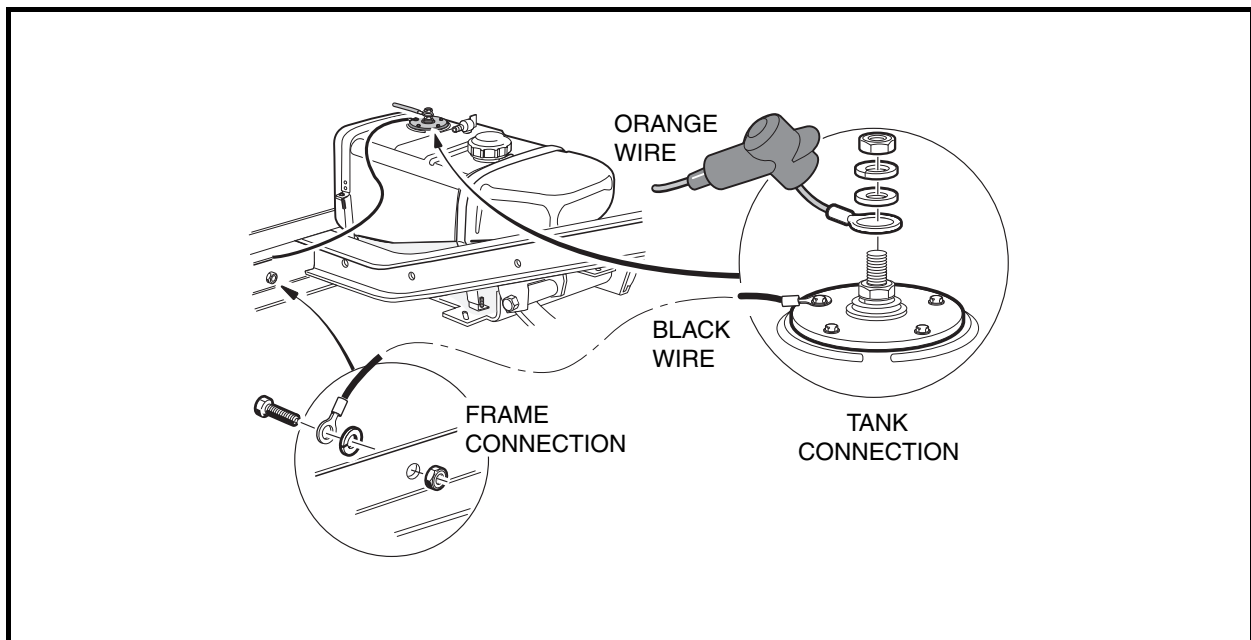
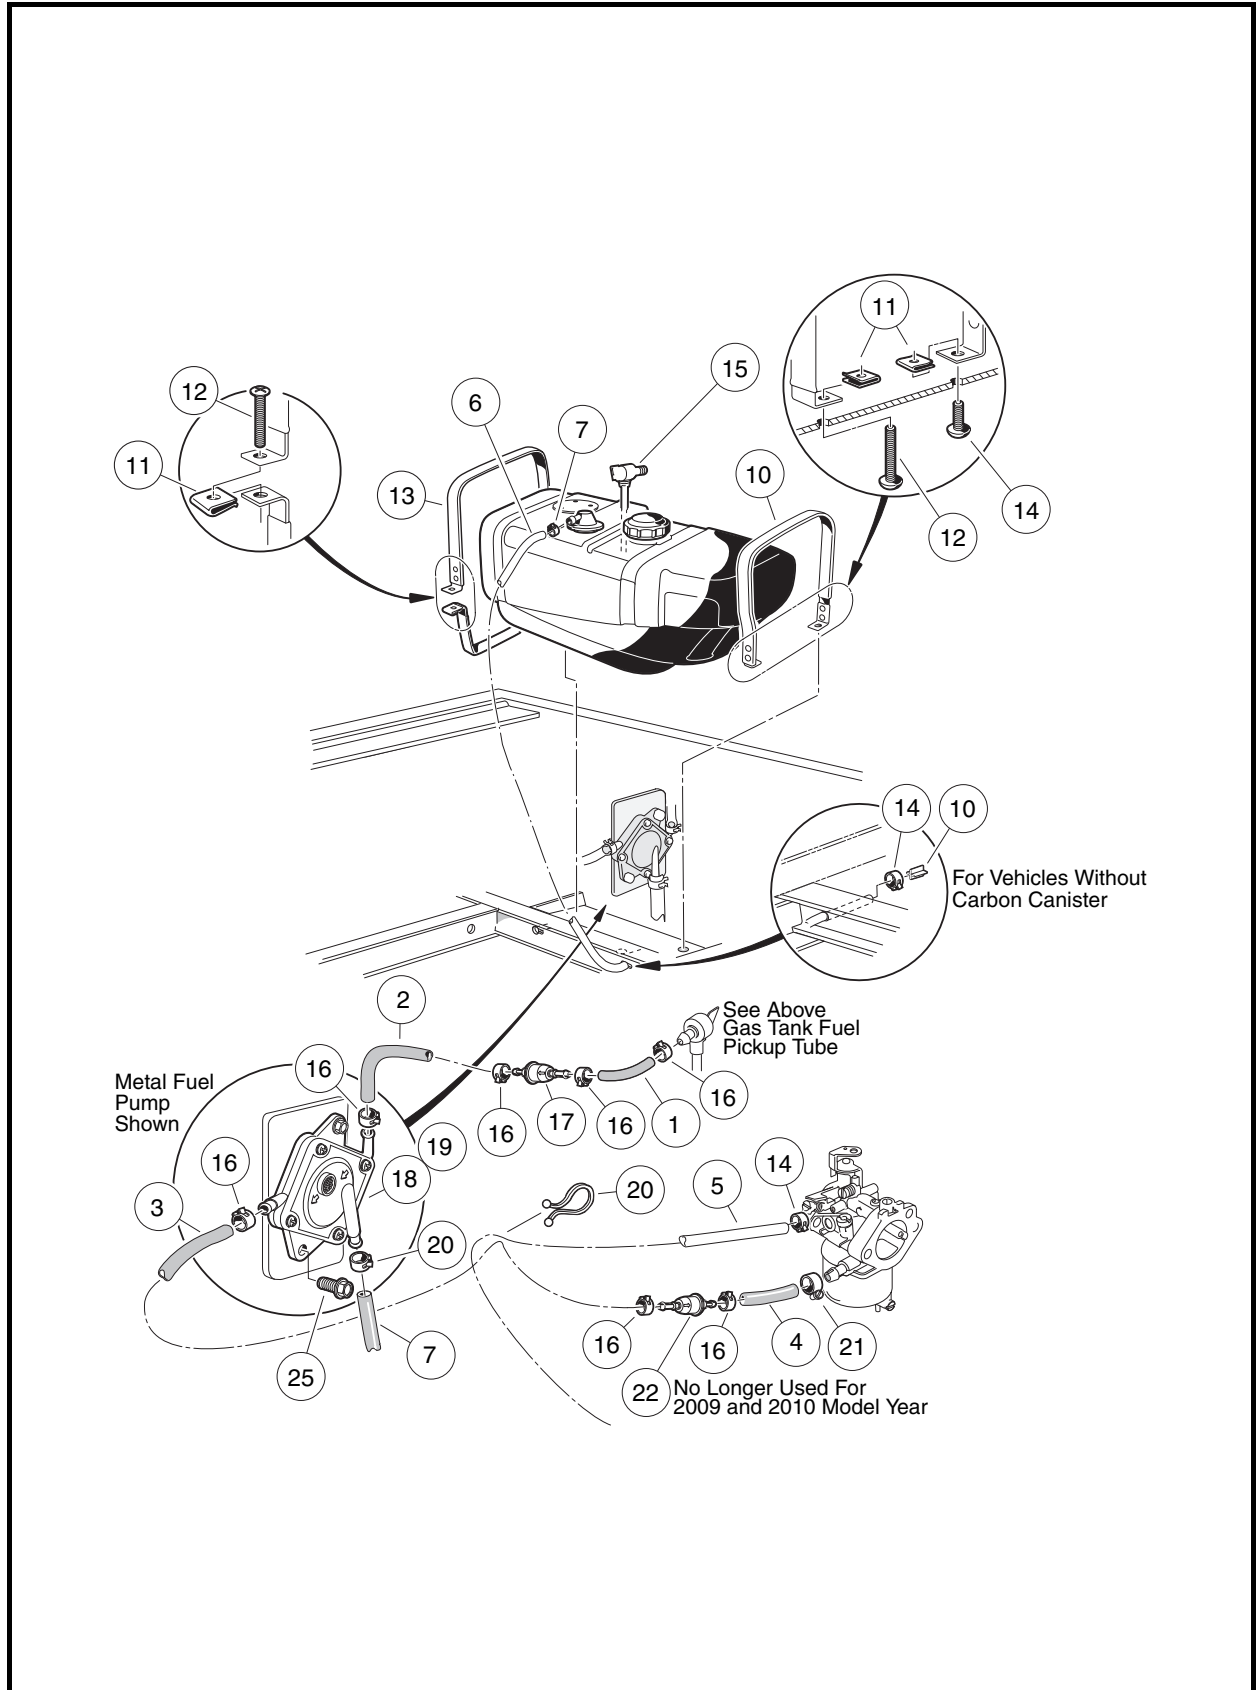
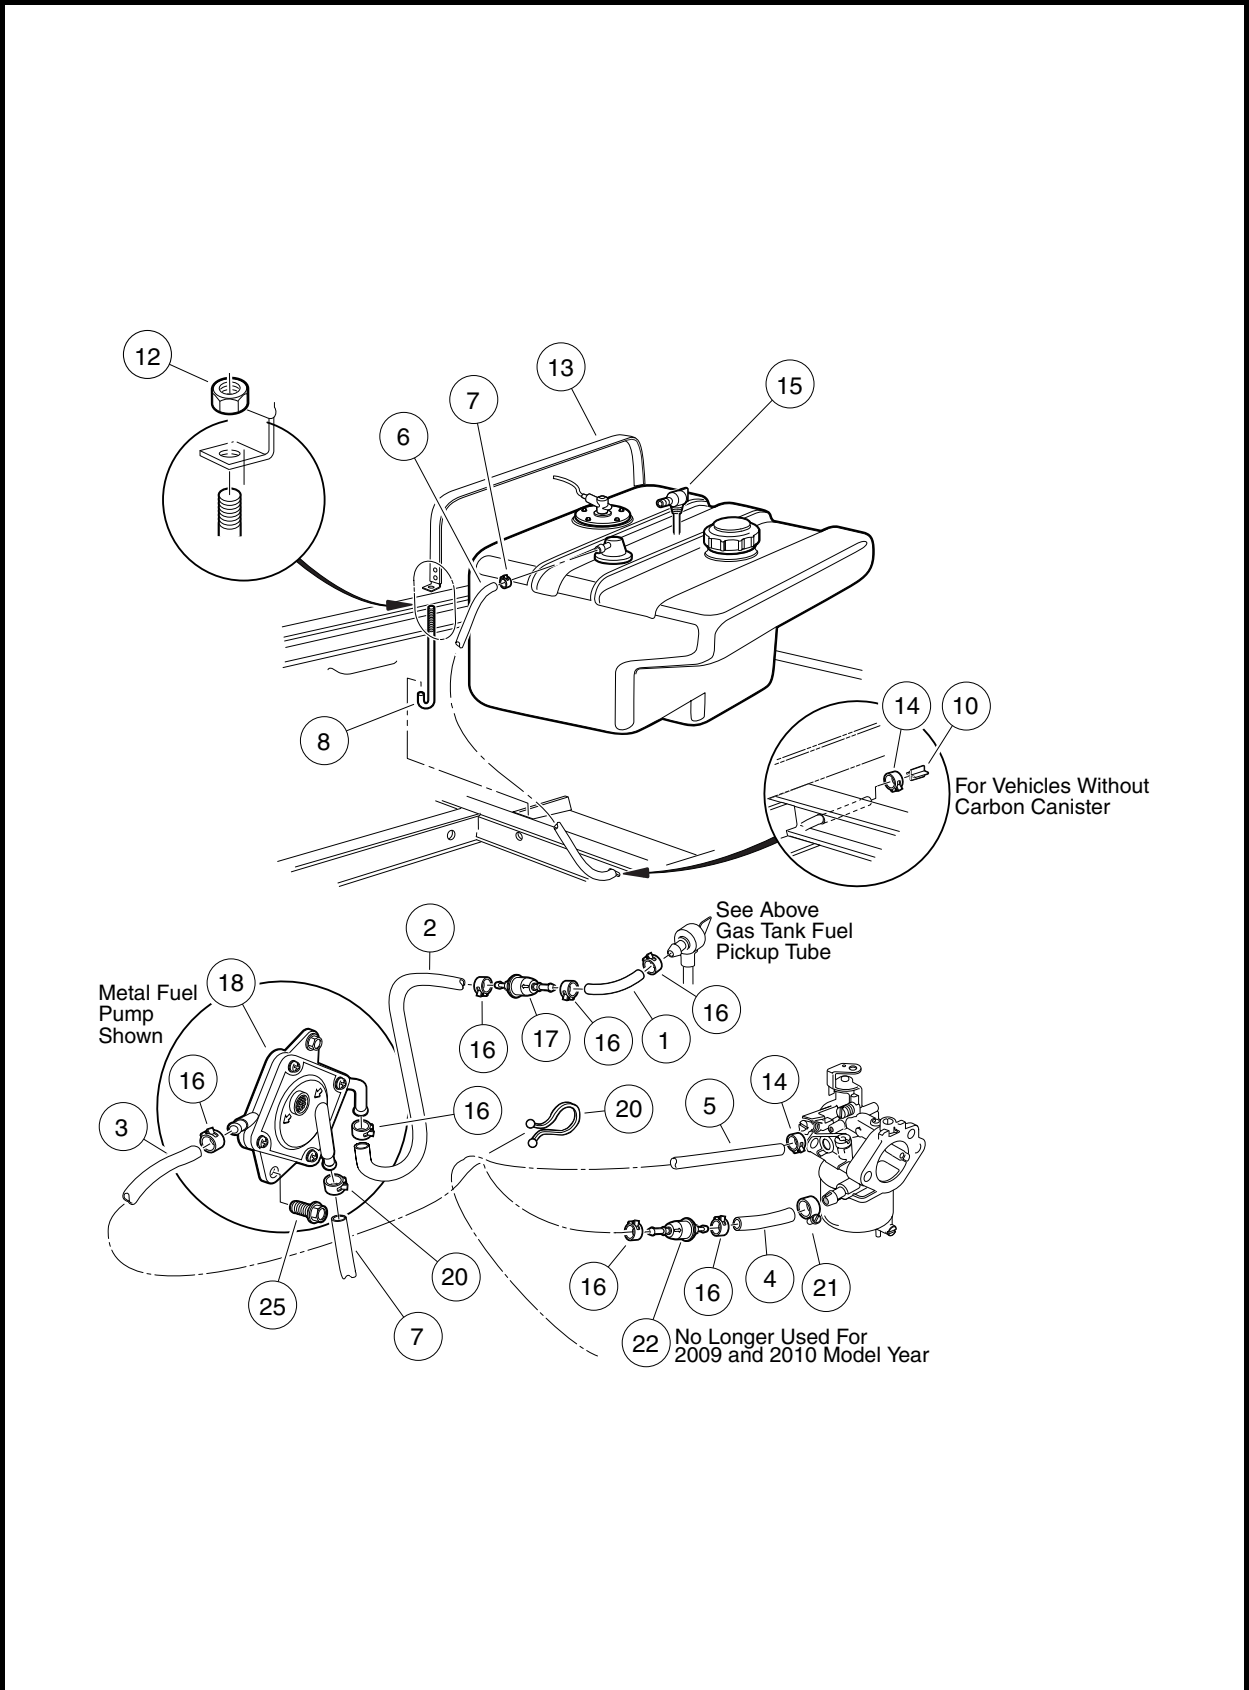

Figure 14-15 Fuel Level Sending Unit
Figure 14-16 Turf 272/Carryall 272/XRT 1200 Fuel and Vent Lines
Figure 14-17 Carryall 472/XRT 1200 SE Fuel and Vent Lines
1. Install the primary fuel filter (17) in reverse of removal. Use new clamps (16) (**Figure 14-16, Page 14-24 or Figure 14-17, Page 14-25**).
2. If equipped, install the secondary fuel filter (22) in reverse of removal. Use new clamps (16).
4. Remove hardware (25) attaching the fuel pump (18) and lift the fuel pump out of the engine compartment (**Figure 14-16, Page 14-24 or Figure 14-17, Page 14-25**).
5. Remove the clamp (20) and impulse line (7) from fuel pump.
6. Remove the clamps (16) and fuel lines (2 and 3) from the pump. Plug lines to prevent gasoline leakage. **See following WARNING.**
1. Connect the fuel line (2) that comes from the fuel filter (17) to the fuel pump (18). Install a new clamp (16) (**Figure 14-16, Page 14-24 or Figure 14-17, Page 14-25**). **See same figure for proper routing of fuel lines. See following NOTE.**
**NOTE:** Be sure to connect the fuel line (2), that comes from the primary fuel filter (17), to the inlet nipple on the pump. Direction of fuel flow is indicated by the arrows on the fuel pump.
2. Connect the fuel line (3) to the fuel pump (18) that goes to the secondary fuel filter (22). Install a new clamp (16).
3. Connect the impulse line (7) to the bottom nipple on the fuel pump (18). Use a new clamp (20).
4. Install the fuel pump onto the mounting bracket with two thread-rolling screws (25) and tighten to 40 in-lb (4.5 N·m).
9. Disconnect the black wire and orange wire from the fuel level sending unit on the tank (Figure 14-15, Page 14-23). Do not remove the lower nut on the center stud of the sending unit. See following WARNING.
10. Loosen clamp (16) and remove the fuel line (1) from fuel tank shut-off valve (15) (Figure 14-16, Page 14-24 or Figure 14-17, Page 14-25).
11. Loosen clamp (7) and remove vent tube (6) from the fuel tank.
- 12.1. Loosen the straps (13 and 10) by removing screws (12 and 14) from the speed nuts (11) (Figure 14-16, Page 14-24).
- 13.1. Loosen the strap (13) by removing nut (12) from J-bolt (8) (Figure 14-17, Page 14-25).
- 1.1. Position the retaining straps (13 and 10) and install the fuel tank (**Figure 14-16, Page 14-24**).
- 1.2. Install the screws (12 and 14) into the speed nuts (11) and tighten screws to 25 in-lb (2.8 N·m) (**Figure 14-16, Page 14-24**).
- 2.1. Position the retaining strap (13) and install the fuel tank (**Figure 14-17, Page 14-25**).
3. Connect the vent tube (6) to the gas tank vent (**Figure 14-16, Page 14-24 or Figure 14-17, Page 14-25**).
4. Connect fuel line (1) to the fuel tank shut-off valve (15). Use a new clamp.
5. Connect the black wire from the fuel gauge to one of the fuel level sending unit screws. Connect the orange wire to the center stud and install the flat washer, lockwasher and nut and tighten to 18 in-lb (2.0 N·m) (**Figure 14-15, Page 14-23**).
Fuel line no. 1 runs directly from the fuel tank to the primary fuel filter (17). Arrow indicates flow (**Figure 14-16, Page 14-24 or Figure 14-17, Page 14-25**).